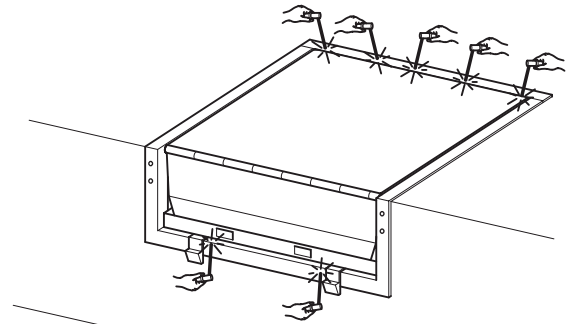

FIGURE 9
9. Spot, space or stitch weld the dock leveller rear frame to the pit frame in five (5) places. (See Figure 9)
Weld dock leveller to angle on loading bay and to the front of the free standing unit. (See Figure 9)